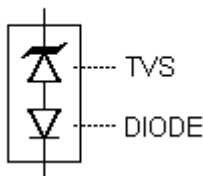
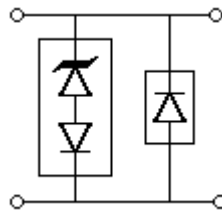

FIGURE 2
FIGURE 3
The TVS low capacitance device configuration is shown in Figure 2. As a further option for unidirectional applications, an additional low capacitance rectifier diode may be used in parallel in the same polarity direction as the TVS as shown in in Figure 3. In applications where random high voltage transients occur, this will prevent reverse transients from damaging the internal low capacitance rectifier diode and also provide a low voltage conducting direction. The added rectifier diode should be of similar low capacitance and also have a higher reverse voltage rating than the TVS clamping voltage V_C . Consult factory for recommended rectifier part number. If using two (2) low capacitance TVS devices in anti-parallel for bidirectional applications, this added protective feature for both directions (including the reverse of each rectifier diode) is also provided. The unidirectional and bidirectional configurations in Figure 3 and 4 will both result in twice the capacitance of Figure 2.